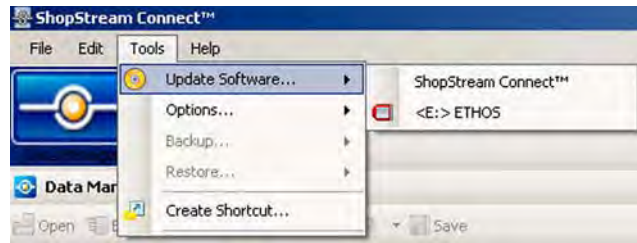

Figure B-10 Sample Update Software menu
5. Once ShopStream Connect opens; select **Tools > Update Software > ETHOS** from the Menu bar (Figure B-10).